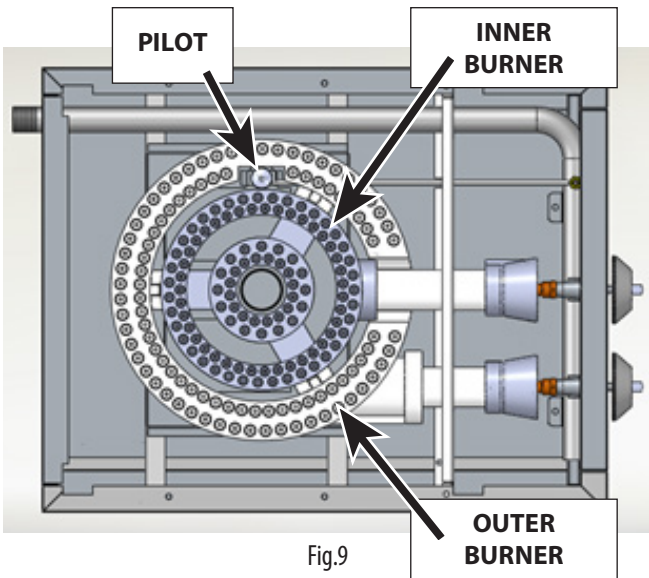
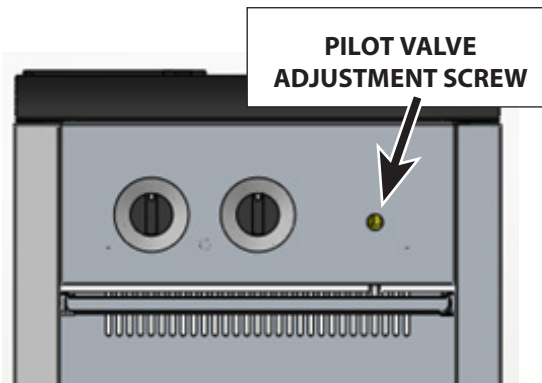

Fig.9
Fig.10
3. Hold an ignition source (e.g. a lit match) at the pilot (Fig.9). When the flame is established, remove the ignition source. If necessary, adjust pilot flame height by turning pilot valve screw (Fig.10).
The burner is in two sections, controlled by two heavy-duty infinite control valves: the center "star" section (Fig.9) is on separate burner, with an input of 40,000 BTU/hr, and it is controlled by the right burner valve knob.; the outer circle of the burner (Fig.9) is the other separate 40,000 BTU/hr input burner, controlled by the left burner valve knob.